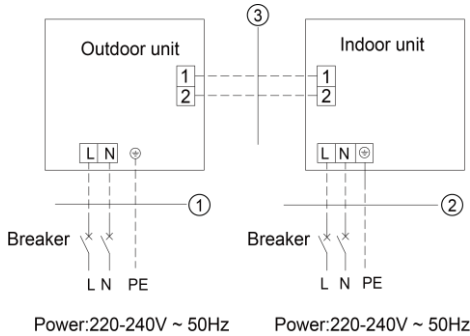
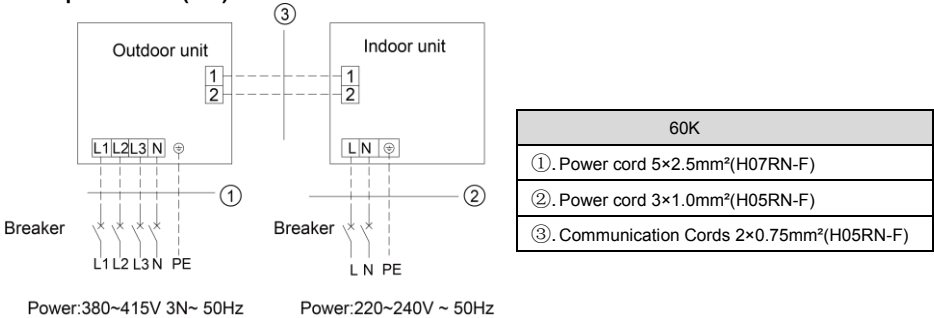

Fig. 4.39
Fig. 4.42
| ⑦. | Connect the indoor unit connection cord properly based on the corresponding marks as shown from Fig. 4.39 to Fig. 4.42. |